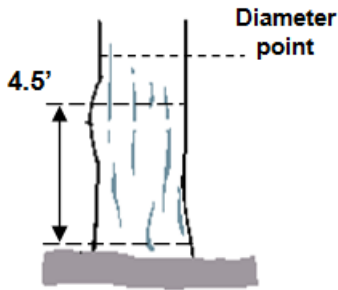
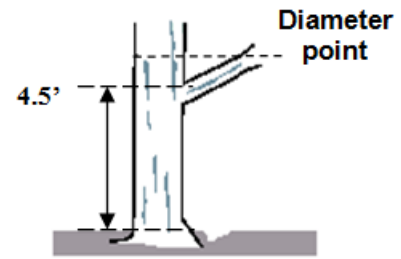
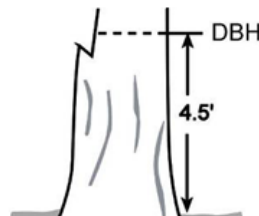

Figure 5 - Tree with Swelling
Figure 6 - Tree with Branch
Figure 9 - Tree with Part of Stem Missing
- Tree with Irregularities at DBH: On trees with swellings (Figure 5), bumps, depressions, and branches (Figure 6) at DBH, diameter will be measured immediately above the irregularity at the place it ceases to affect normal stem form.
- Missing Wood or Bark: Do not reconstruct the DBH of a tree that is missing wood or bark at the point of measurement. Record the diameter of the wood and bark that is still attached to the tree (Figure 9). If a tree has a localized abnormality (gouge, depression, etc.) at the point of DBH, apply the procedure described for trees with irregularities at DBH (Figures 5 and 6).